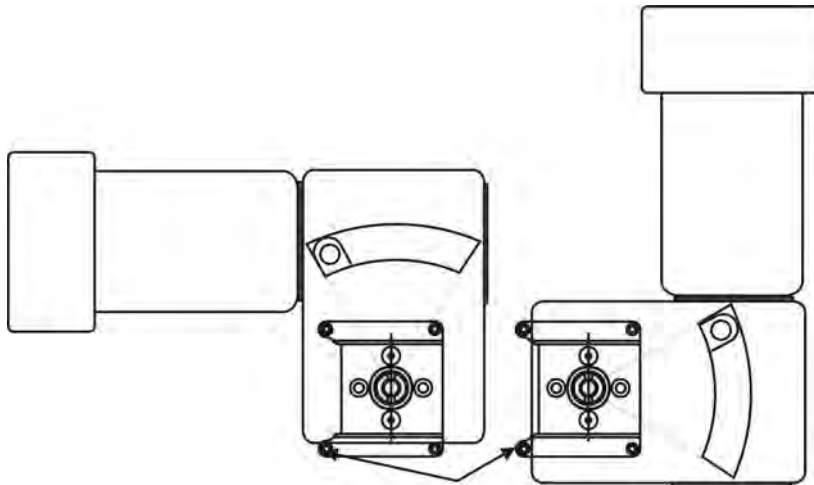
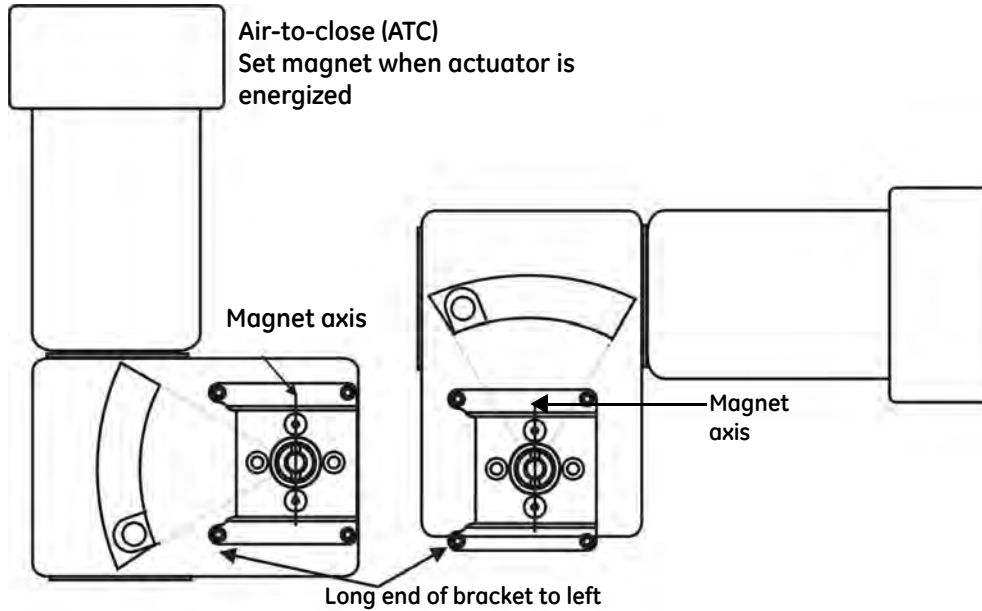

Figure 19 Camflex Air-To-Open Mounting (Front View)
Figure 20 Mounting Bracket on Air-to-Close Actuator
1. Attach the SVI FF rotary mounting bracket to the valve actuator using two (2) 5/16 - 18 UNC flat-head cap screws. Mount the SVI FF as shown in Figure 19, ATO or in Figure 20 on page 51, ATC. In the preferred mounting position, the long end of the mounting bracket is on your left when facing the actuator, for any position of the valve and actuator.
5. Rotate the magnet holder so that the magnet axis is vertical when the valve is in the closed position. See Figure 19 on page 50 and Figure 20.